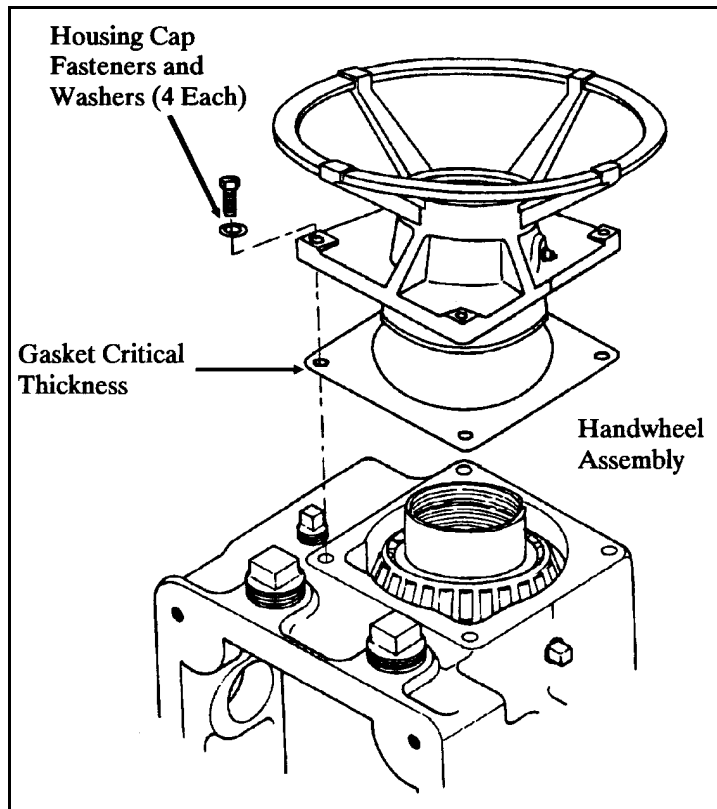

Figure 4-44 Handwheel Assembly Installation
24. Handwheel Assembly Installation Refer to Figure 4-44